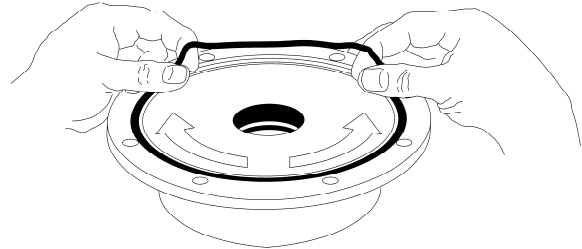

Figure 10 - Head O-ring Installation
7. Install a new head O-ring (72) in the groove on the inside face of the head (20). Lay the O-ring flat and start in on one side of the groove, stretching ahead with the fingers, as shown in Figure 10.